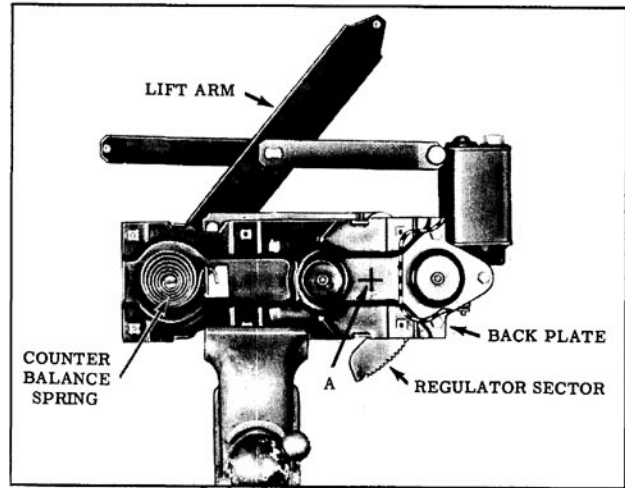

Fig. 16-67 Regulator and Motor Assembly
- Remove electric window regulator assembly from door and/or rear quarter and clamp securely in vise. (Fig. 16-67)
IMPORTANT: DO NOT drill into the motor housing, part of which is indicated by the dotted line illustrated in Fig. 16-67. In addition, locate hole a sufficient distance from edge of sector gear to insure proper retention of sector gear to back plate.
- Remove motor attaching bolts and remove motor assembly from regulator. (Fig. 16-67)